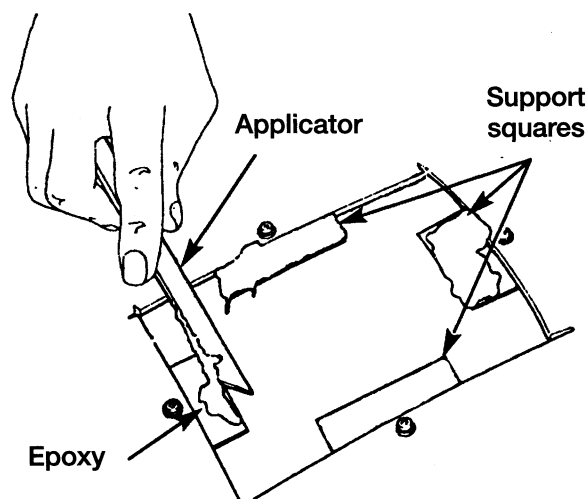

Fig. 4 Apply Epoxy to Support Squares
14. Apply a coat of epoxy to the exposed ends of the support squares (Fig. 4).